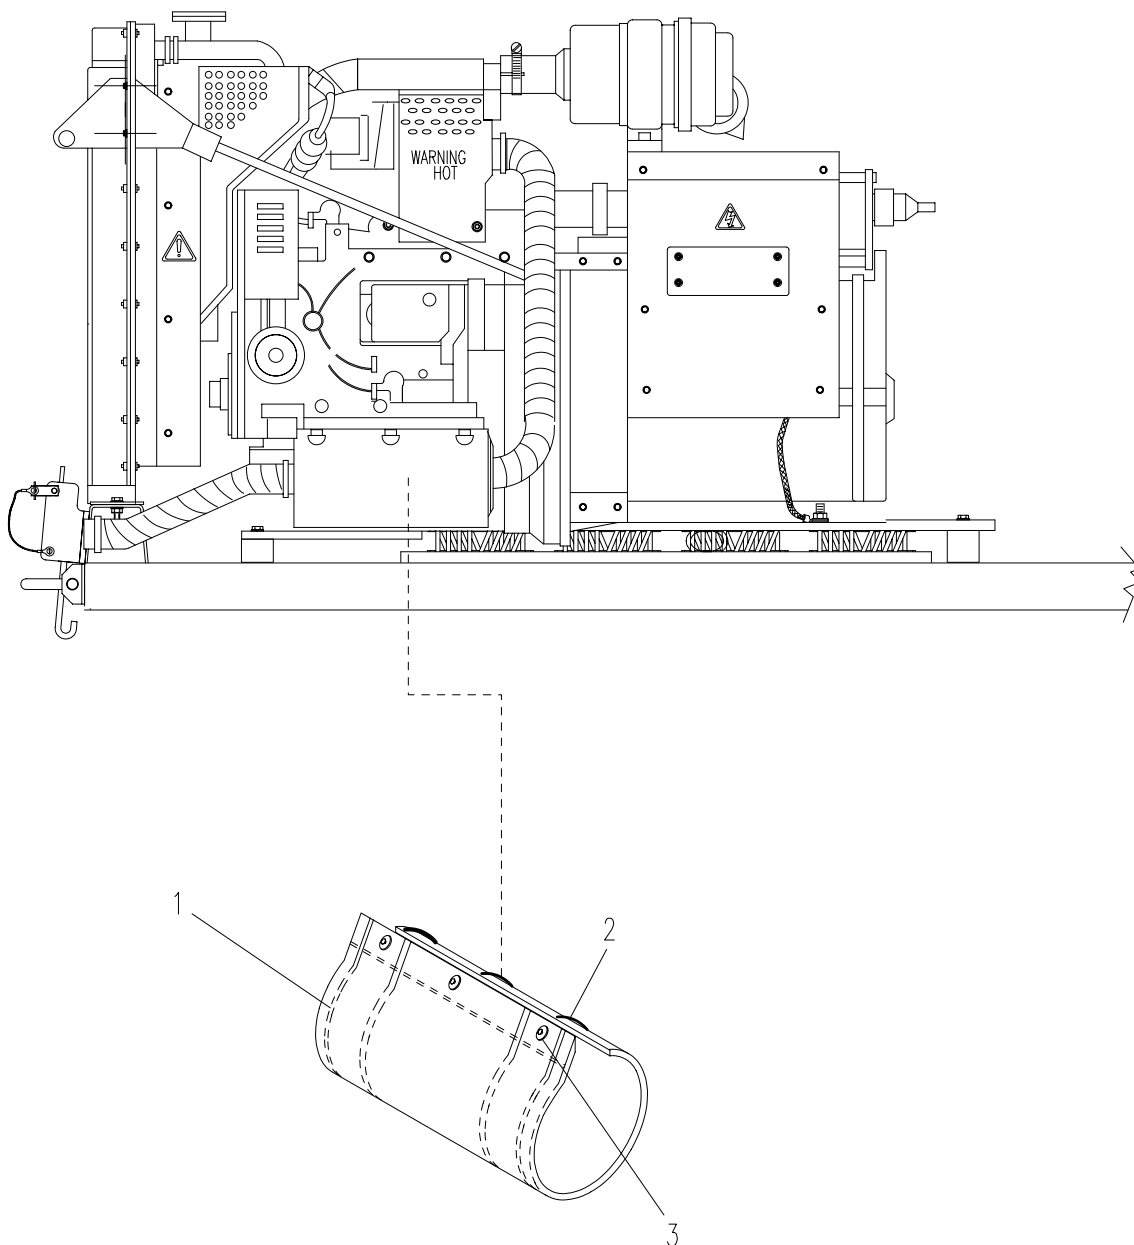

Figure 4-27. Muffler Wrap
- a. Remove all safety wires (2, Figure 4-27) from four hooks and buttons (SICPS) or three hooks and buttons (WIN-T and JTACS) (3) securing muffler wrap (1).
- b. Remove muffler wrap (1).
- c. Install new muffler wrap (1) and secure using four hooks and buttons (SICPS), three hooks and buttons (WIN-T and JTACS) (3), and safety wires (2).
- d. Reinstall bracket (2) on muffler wrap (1).